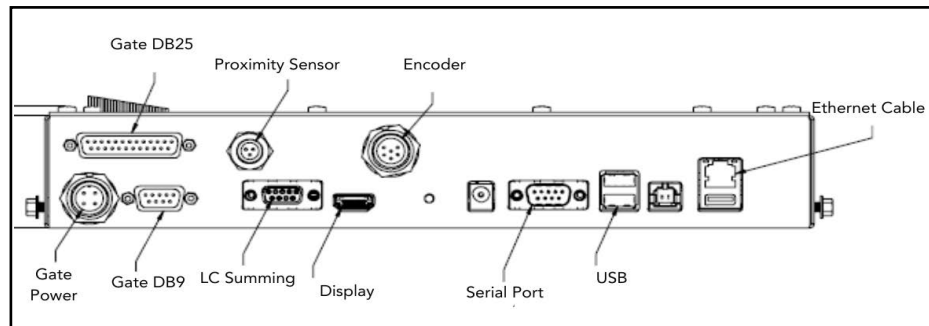

Figure 7
1. Connect the USB cable to the Cubiscan 25v2's USB type B port located on the controller box, as shown in Figure 7.
2. Connect the serial cable to the Cubiscan 25v2's serial port, as shown in Figure 7.